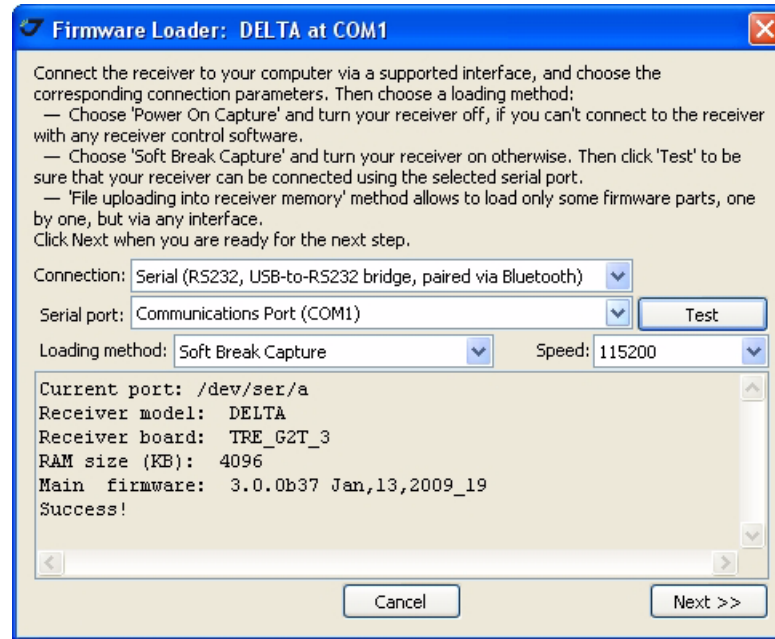

Figure 5-15. Connection Parameters
4. Select the COM port receiver is connected to. Click the *Test* button to ensure the receiver is connected. Click *Next>>* (Figure 5-15).